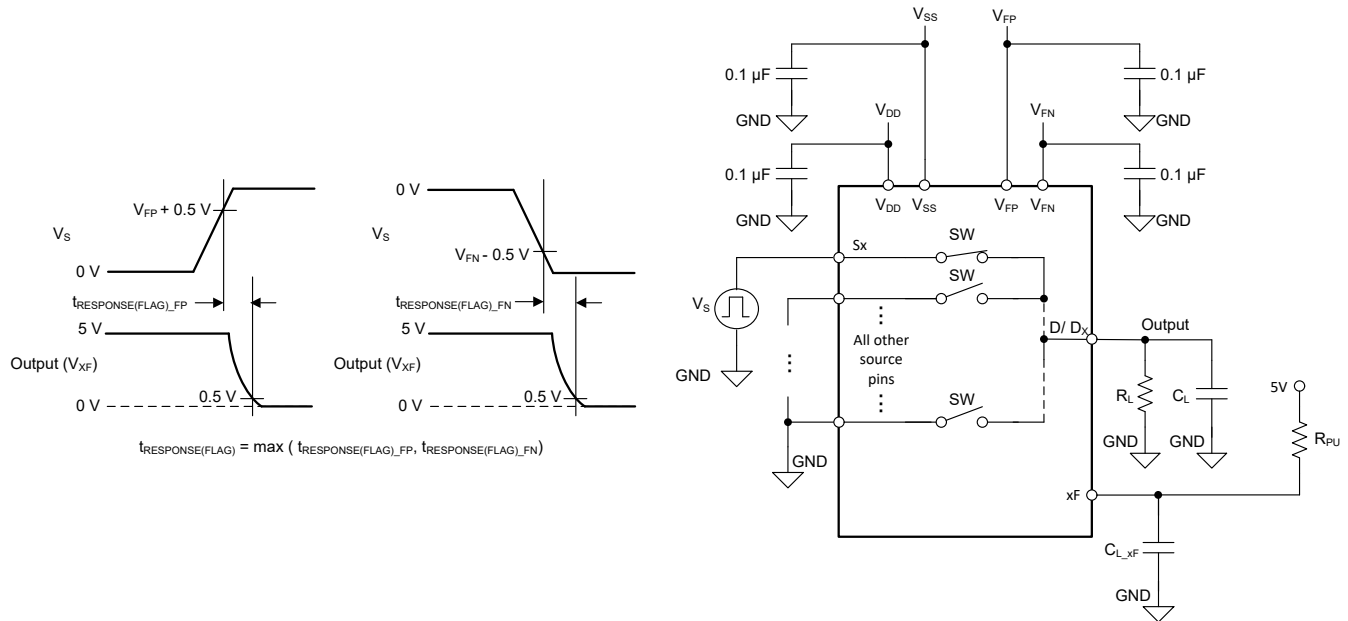

Figure 7-11. Fault Flag Response Time Measurement Setup
Fault flag response time ($t_{\text{RESPONSE(FLAG)}}$) measures the delay between the source voltage exceeding the fault supply voltage (V_{FP} or V_{FN}) by 0.5 V and the general fault flag (FF) pin or specific fault flag (SF) pin to go below 10% of its original value. Figure 7-11 shows the setup used to measure $t_{\text{RESPONSE(FLAG)}}$.